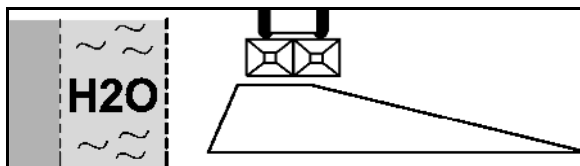

Fig. 59
2. Ditch spreading in accordance with fertiliser ordinance (Fig. 59):